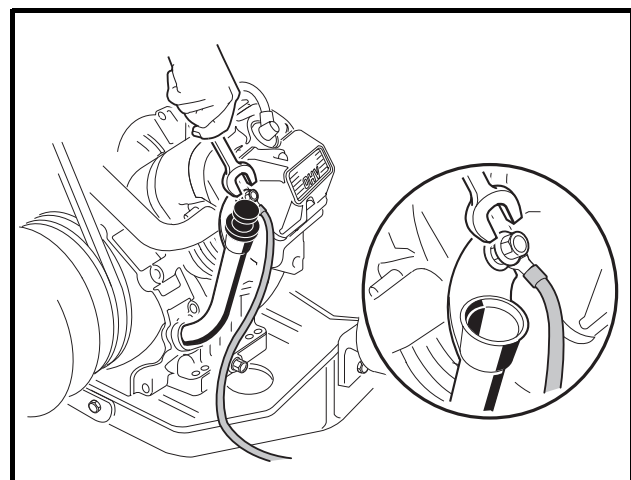

Figure 16-50 Engine Ground
27. Attach the ground wire to the mounting screw on the oil filler tube mounting bracket and tighten to 50 in-lb (5.7 N·m) (**Figure 16-50, Page 16-20**).